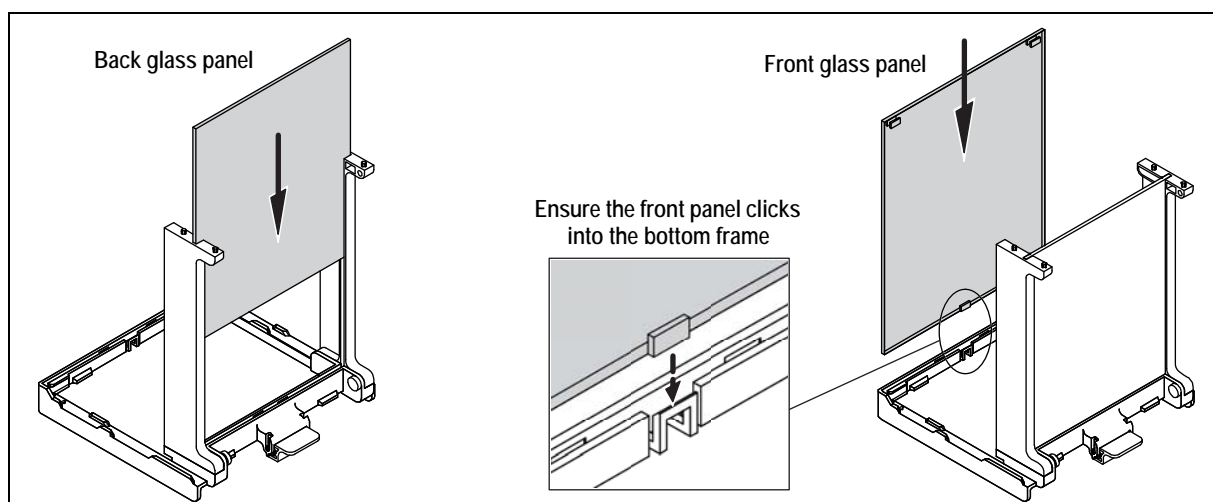

Figure 2-9. Insert Front and Back Panels
6. Insert the front glass panel into the bottom frame, ensuring it clicks into the frame as shown in Figure 2-9.